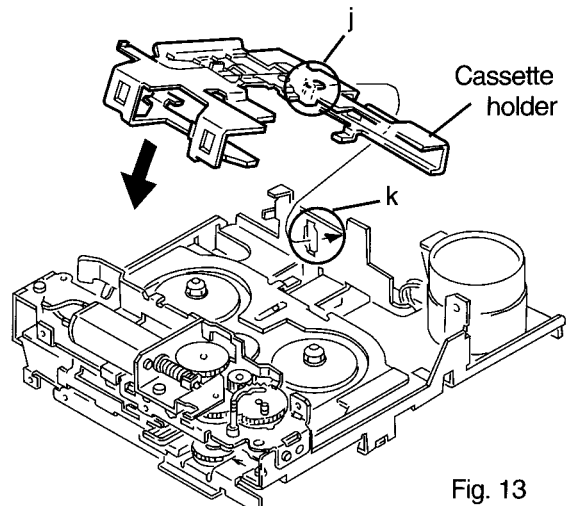

Fig. 13
3. Attach the cassette holder as shown in Fig. 13.